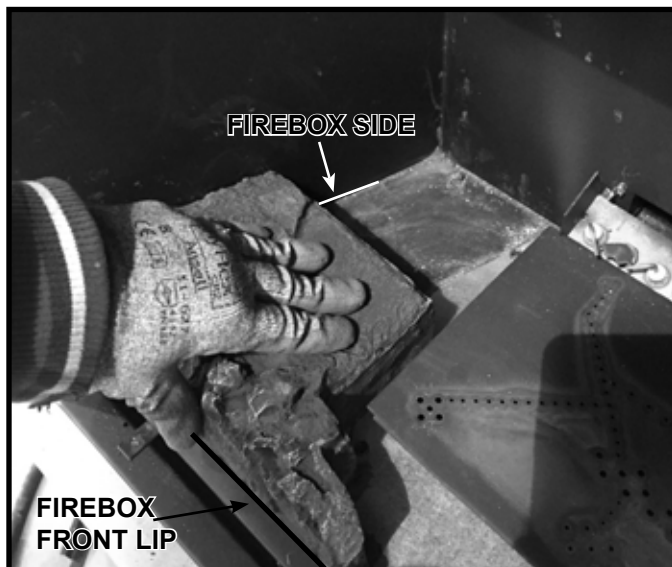

Figure 11.2 Install Left Hearth Component
1. Locate the left hearth component shown in Figure 11.2. Place it as shown in Figure 11.2, ensuring that the outer edge of the hearth component firmly contacts the firebox side and the front edge contacts the firebox front lip. Gently push “down” on the indentation to force the bottom side of the hearth component to engage the screw tips on the bottom of the firebox.